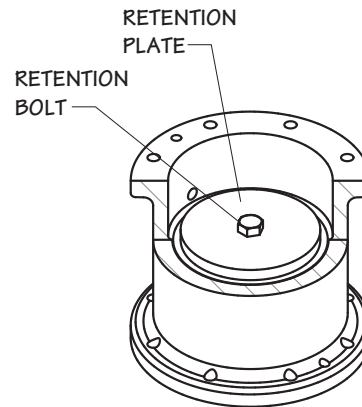

Figure 1 Retention Plate Assembly
4. **Figure 1** illustrates proper retention plate and hardware installation. Torque the retention bolts to 70 ft·lb_f (95 N·m).